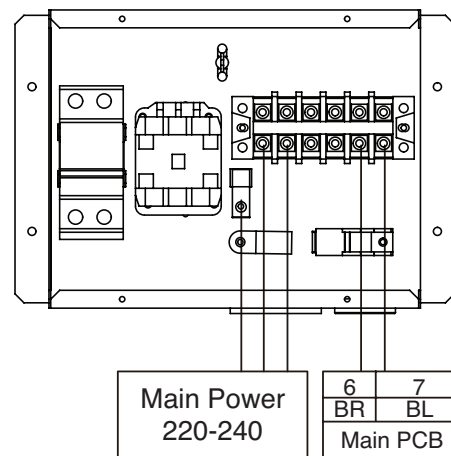

Fig. 2
Step 2. Connect the water tank kit to the main power like the below figure 2.
Step 3. Connect the water tank kit to the Main PCB Assembly1 like the below figure 2.